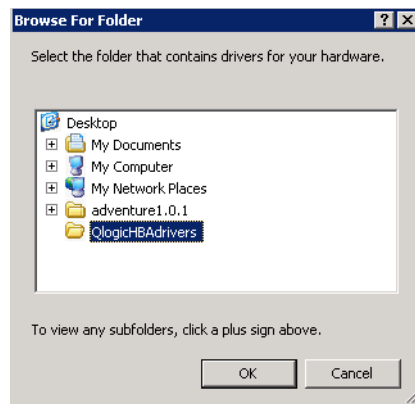

Figure 25-5 Browse for Folder
6. Highlight the folder where you have extracted the HBA driver and click **OK** (Figure 25-5).